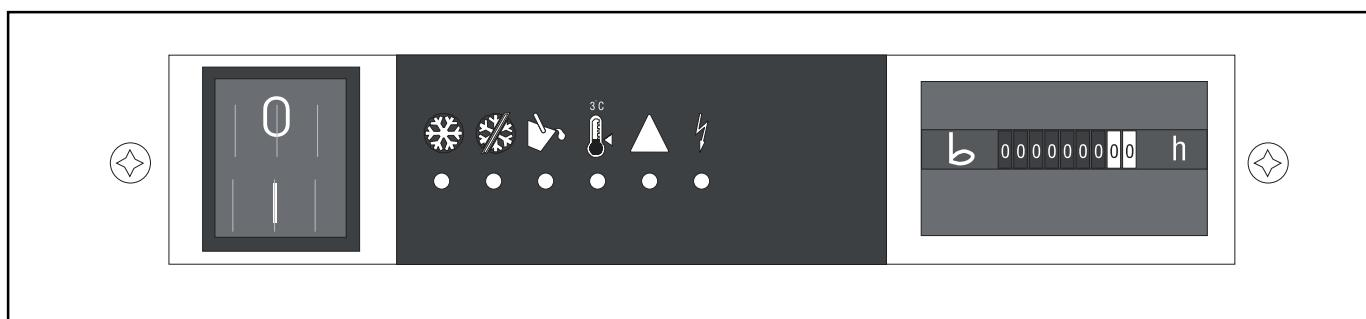

Figure 3-1. Control panel - on-off switch, display and hour run meter
Stop the unit with the on-off switch at the front of the unit, *see Figure 3-1*, or pull out the plug from the wall outlet.
1. Switch the on-off switch to position **I**, see *Figure 3-1*.
2. Switch the on-off switch to position **I**, see *Figure 3-1*.
Switch the on-off switch to position **0**, see *Figure 3-1*.